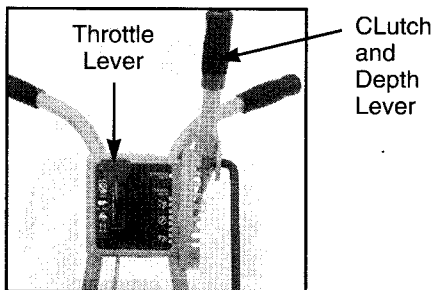

Fig. 6
Clutch and Depth lever (Fig. 6) is used to engage and disengage the drive belt which operates the blade. It is also used to regulate the depth of edging and height of trimming.
1. The throttle lever is located at the right of the control panel and is used to regulate engine speed. (See Fig. 6)